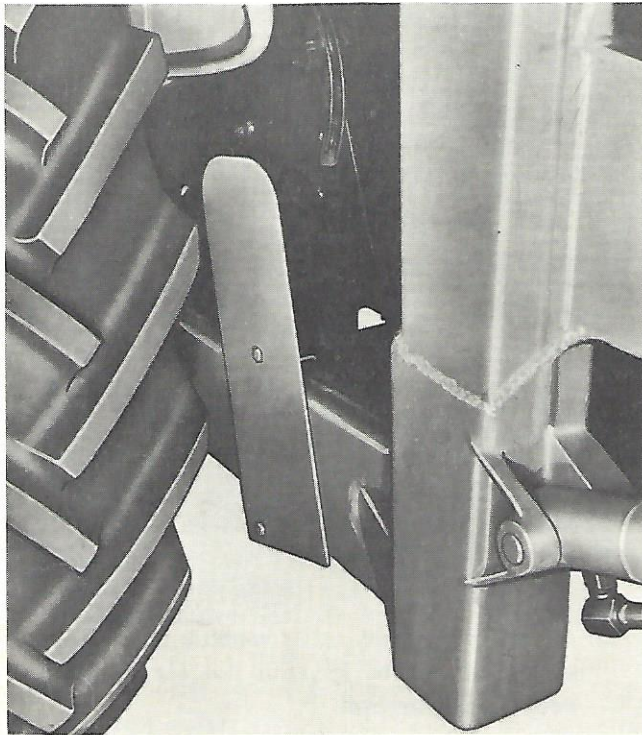

Figure 20
16. Install a foot guard plate on each side of the loader frame as shown in Figure 20.